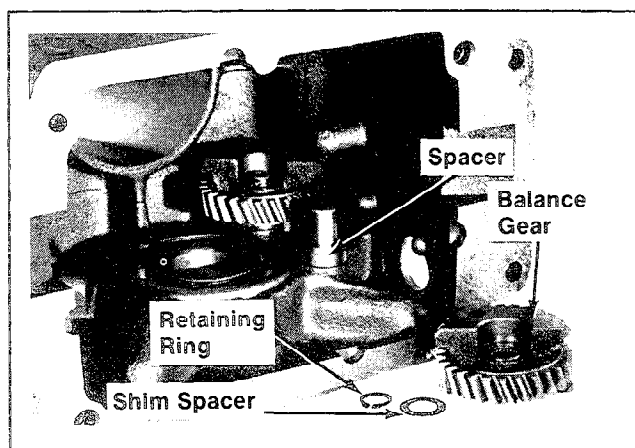

Figure 12-9. Installing Balance Gears.
1. Install the 3/8" spacer, one .010" shim spacer, balance gear, one .020" shim spacer, and retaining ring (rounded edge towards balance gear). Refer to Figure 12-9. A new style needle bearing is now being used on the K-Series balance gear assembly.
3. Position the crankshaft so it is about 15° past BDC. Install 3/8" spacer, and one .010" shim spacer. Align the secondary timing mark on the lower balance gear with the secondary timing mark on the crankshaft. Install the lower balance gear on the stub shaft. If properly timed, the primary timing mark on the crankshaft will now be aligned with the secondary timing mark on the lower balance gear. Refer to Figures 12-9 and 12-17.
4. Install one (1) .020" shim spacer and retaining ring (rounded edge towards gear). Check end
play of lower balance gear as instructed under "INSTALL BALANCE GEARS." Refer to Figures 12-9 and 12-10.